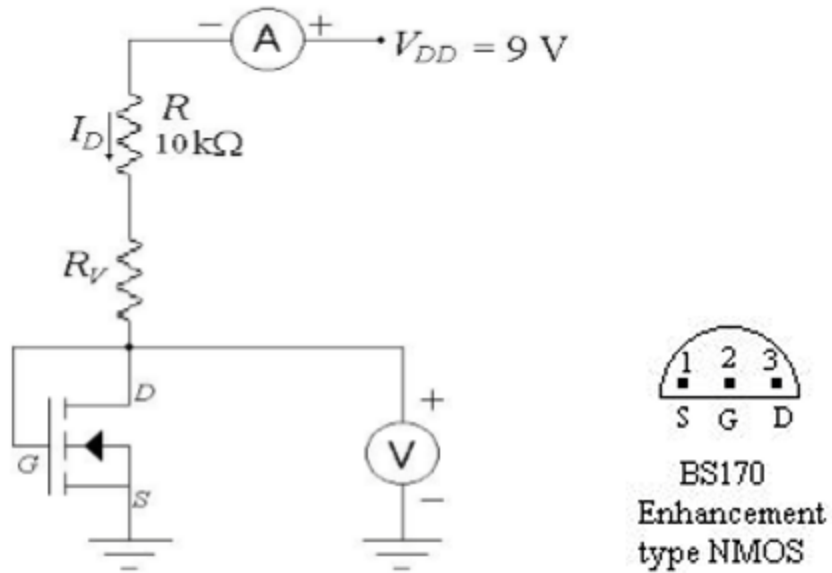

Figure 1 : Circuit for determining NMOS parameter.
1. Connect the circuit as shown in the Figure 1. Note that for this connections  $V_{DS} = V_{GS}$  and the NMOS will be in the saturation mode.